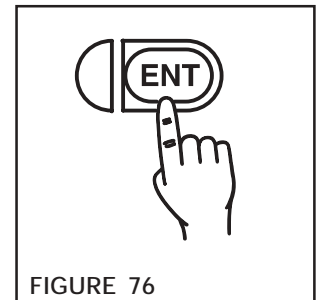

FIGURE 76
2. Press the **ENT**er Key to store taper data and move the decimal one digit to the left (See Figures 76 and 77).
4. Press the **ENT**er Key to store output data and move the decimal one digit to the left (See Figures 76 and 77).
6. Press the **ENT**er Key to move the decimal to the fourth digit (furthest left) (See Figures 76 and 77).
8. Press the **ENT**er Key to store set point data (See Figure 76).